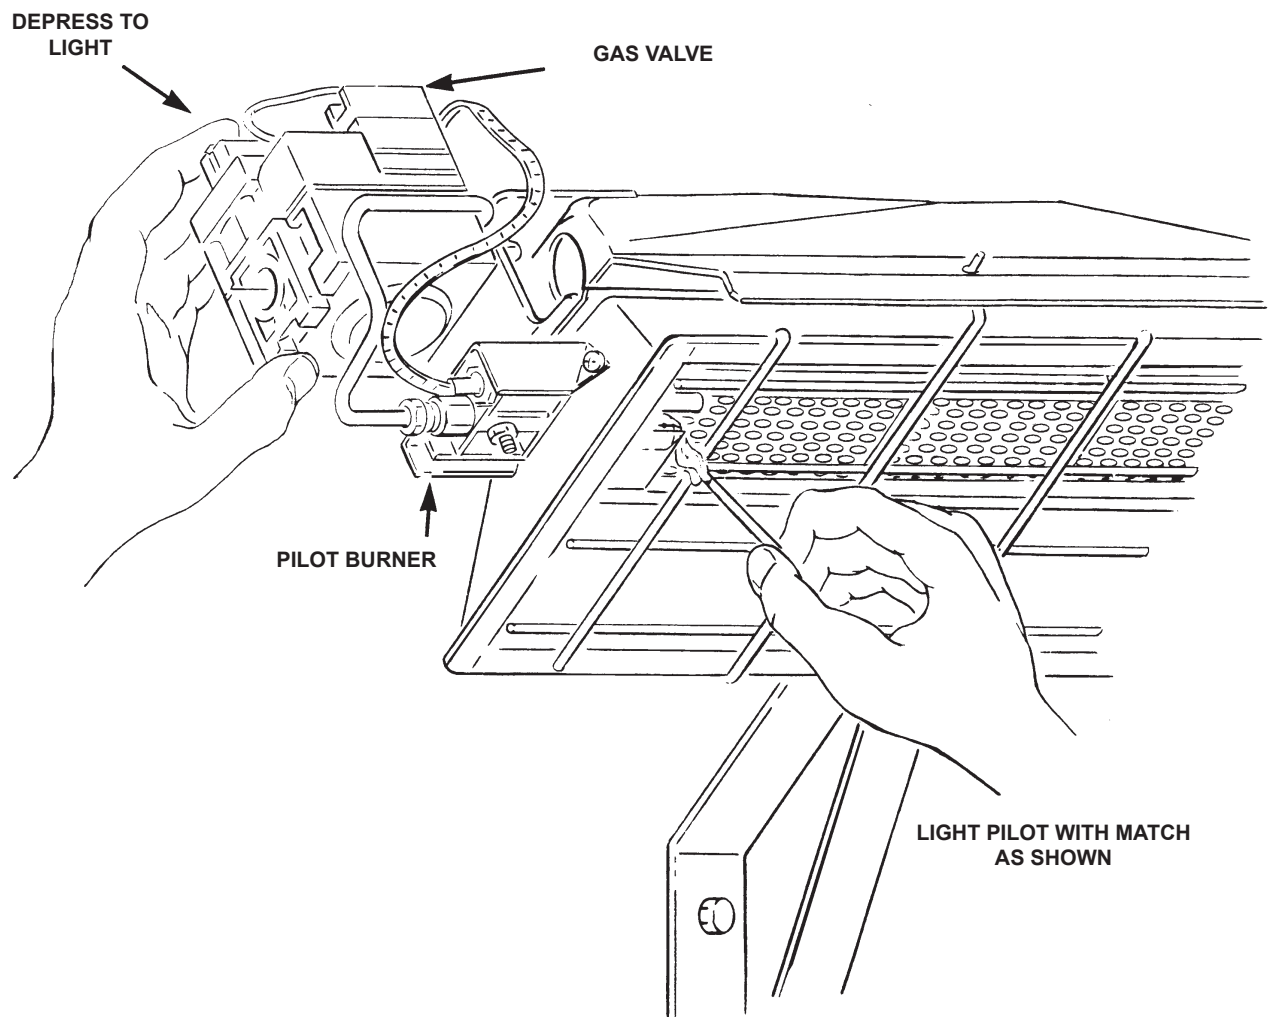

Figure 10. Lighting of Pilot Burner
- F. Depress the manual gas control knob. Using a match, light the pilot light. See Figure 10. Hold the knob down for approximately 30 seconds to allow any air in gas lines to pass through pilot and, once pilot is lit, allow the thermocouple to heat up enough to activate the safety valve in an open position.